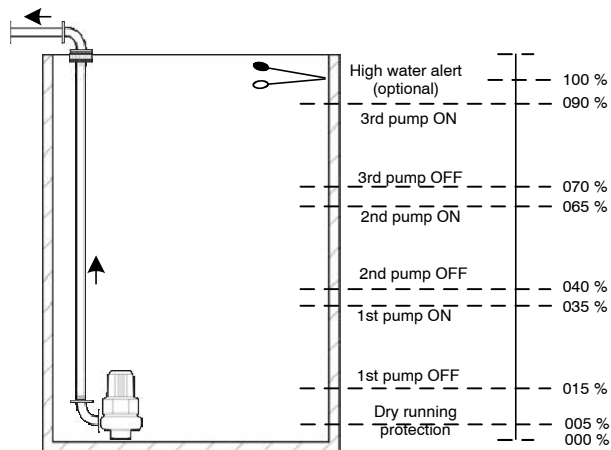
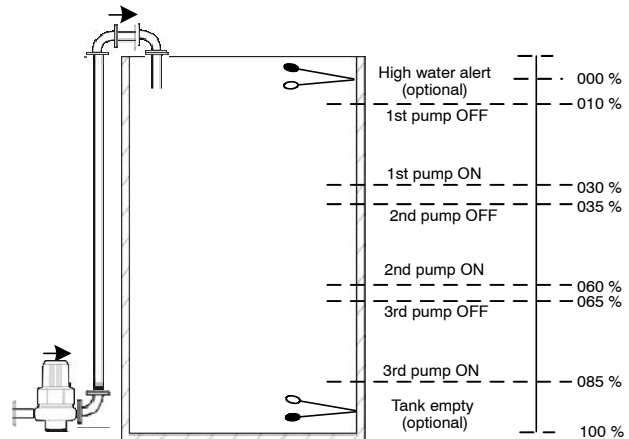

Fig. 14: Example of start and stop levels in an installation with 3 pumps
Fig. 15: Example of start and stop levels in an installation with 3 pumps
**Caution** In installations with less than 6 pumps, all other levels must be set to 99 % (see the following examples in Fig. 14/ Fig. 15 with 3 pumps).